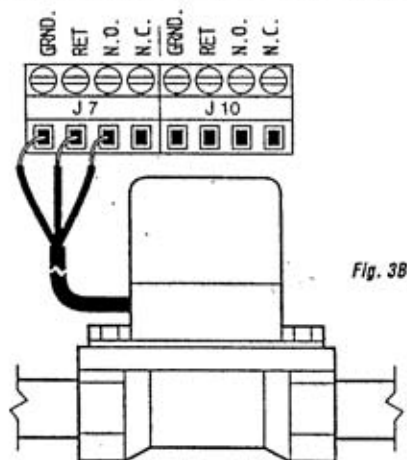

Fig. 3B
Figure 3B at right illustrates how an actuated (motorized) ball valve, which is used for "blow down", is connected to the ABC Controller. It employs a normally open (NO), a normally closed (NC), and common (or neutral) connections. In this example, the first device is connected at J7. Location is behind control panel (see Fig. 3A).